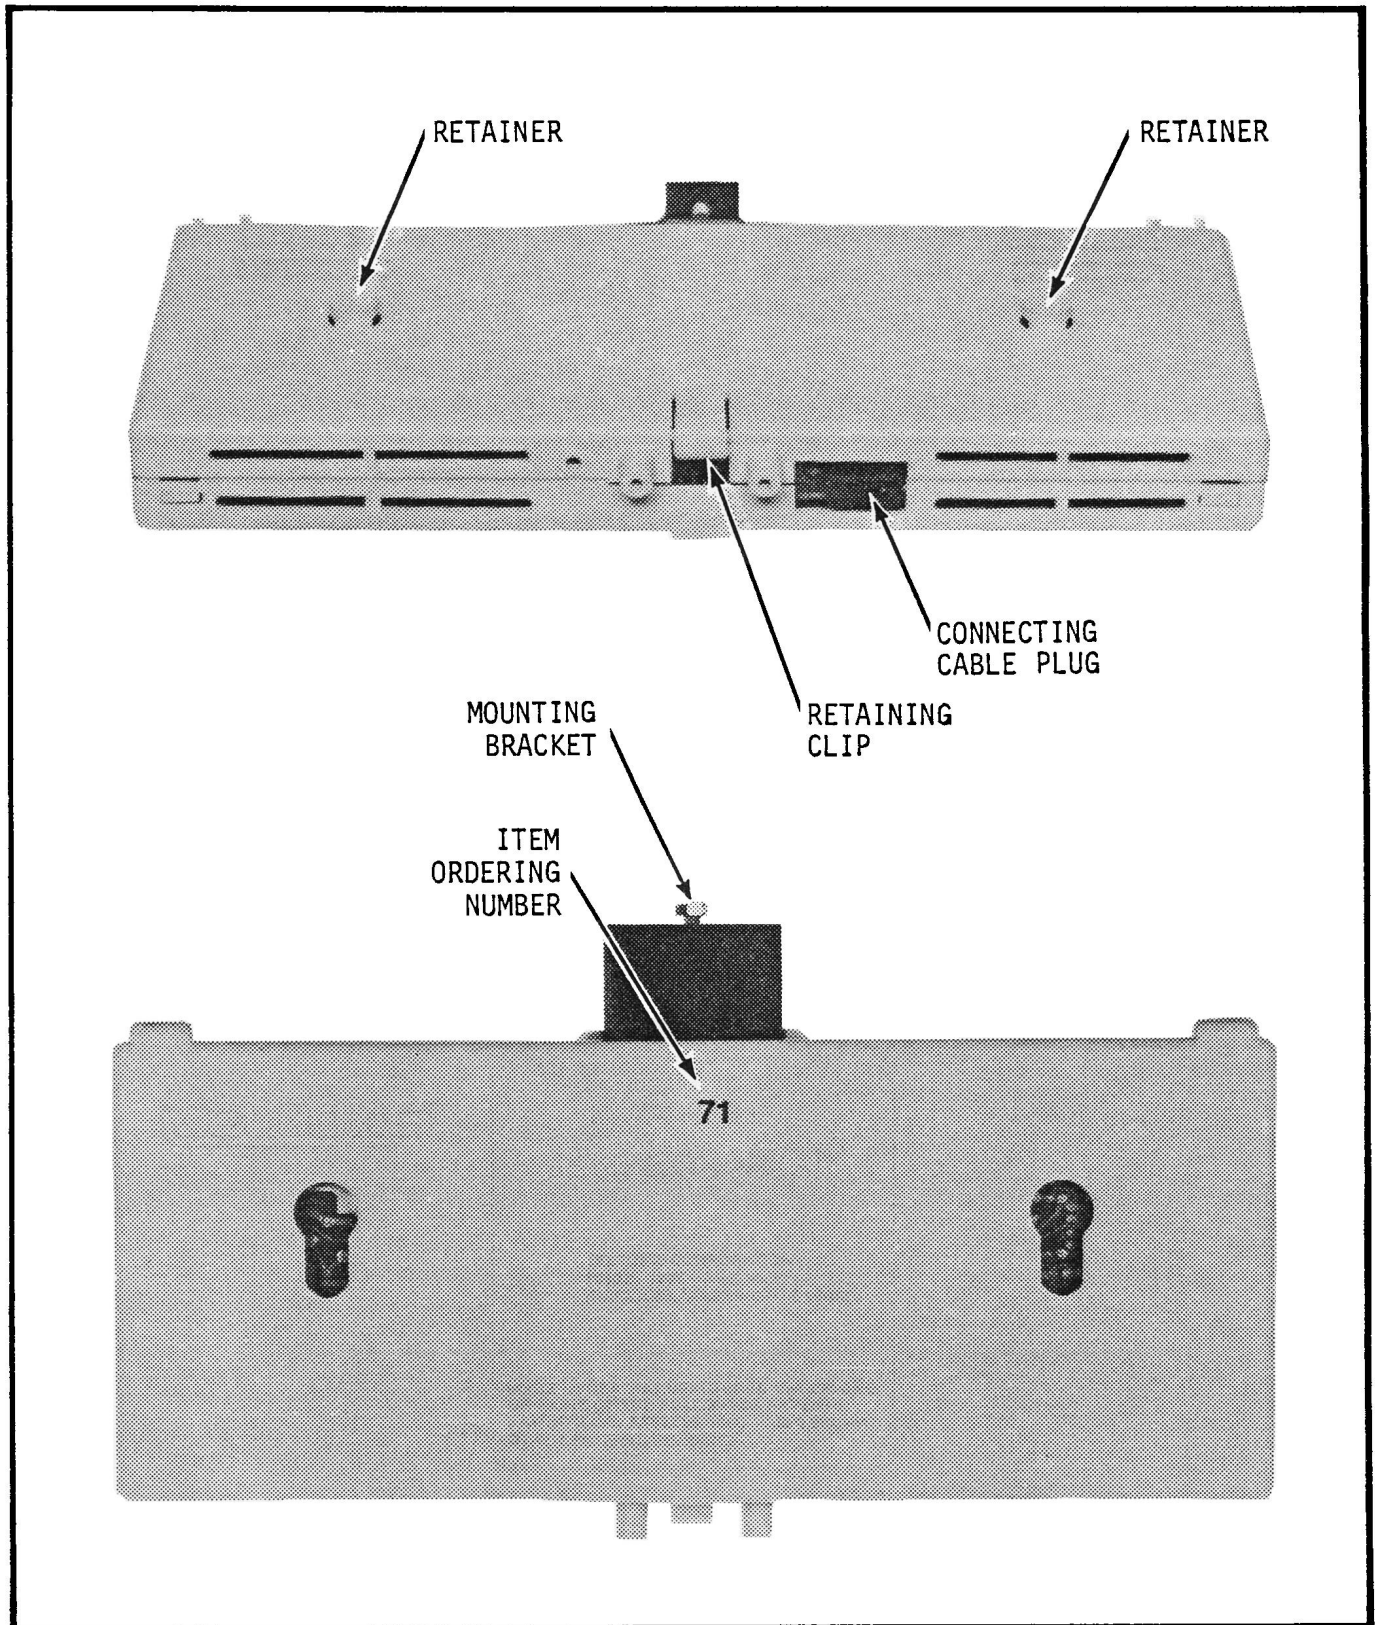

Figure 6 Views of M-164-71
6.02 Examine all the items received to assure they have not been damaged in transit. Compare the item ordering numbers of the units to those listed on the packing slip and Table 1 of this practice to assure the correct items have been received. The item ordering numbers of the M-164's are permanently stamped on the housing. See Figure 6.